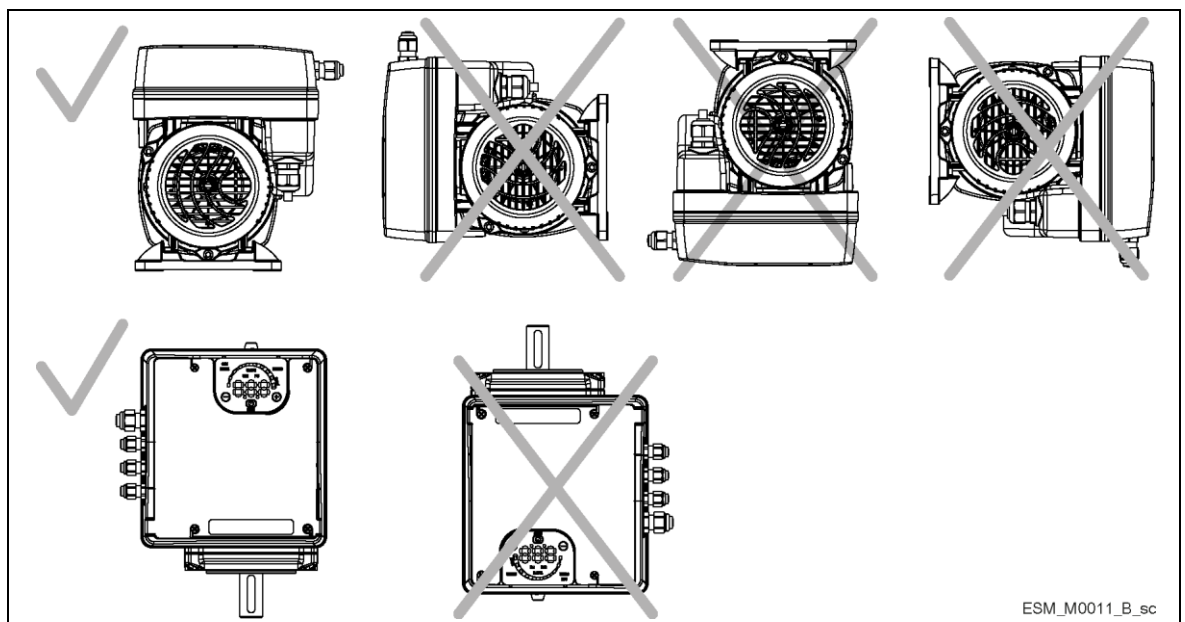

Figure 7: Permitted positions
- Position the unit as shown in Figure 7